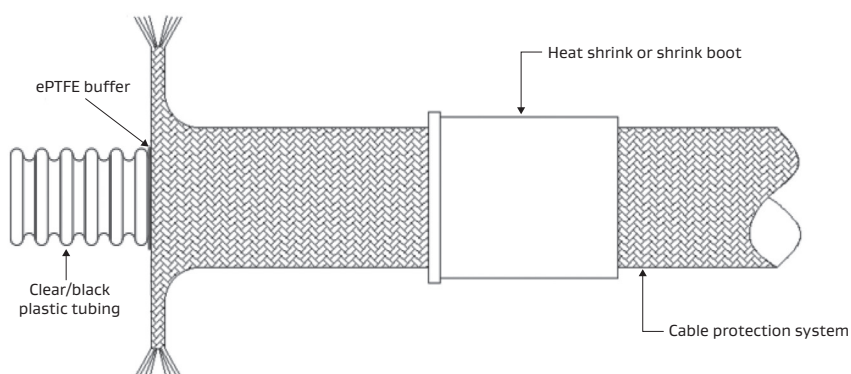

Figure 11: Trimming the white ePTFE buffer
6. Using cutters, carefully trim the white ePTFE buffer so that it is almost flush with the outer braided jacket, and the clear or black plastic tubing is exposed (Figure 11).